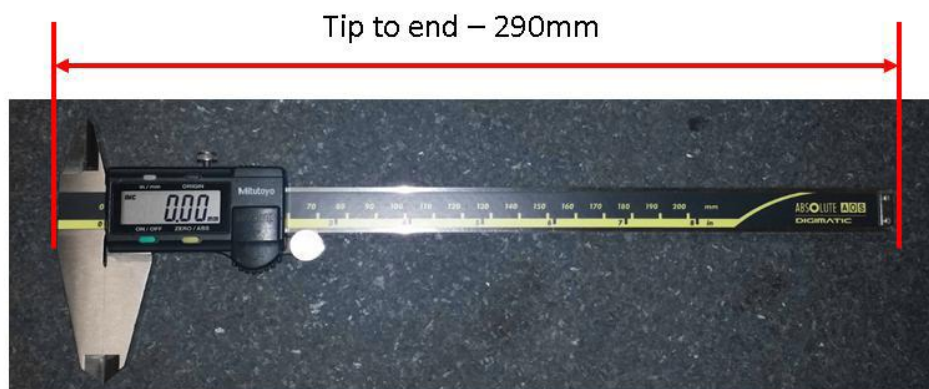

Figure 55 Caliper Length (Reference Pic Only)
66. Add up entire Caliper Length (Figure 55) with exact width of AWA